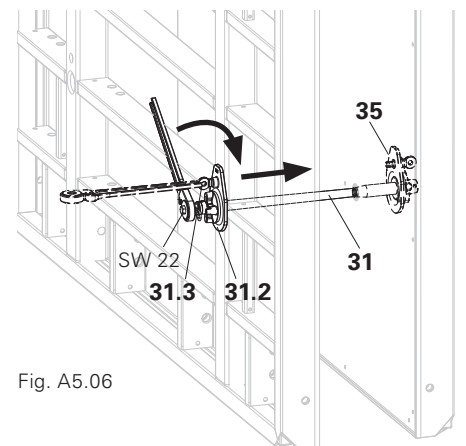

Fig. A5.06
- Push MX 18 Tie (31) through the tie hole of the formwork and screw into Swivel Nut MX 18 (35).
- Slightly tighten the ring bolt (31.3) by means of the Tie Rod Spanner or scaffold ratchet (57). (Fig. A5.06)